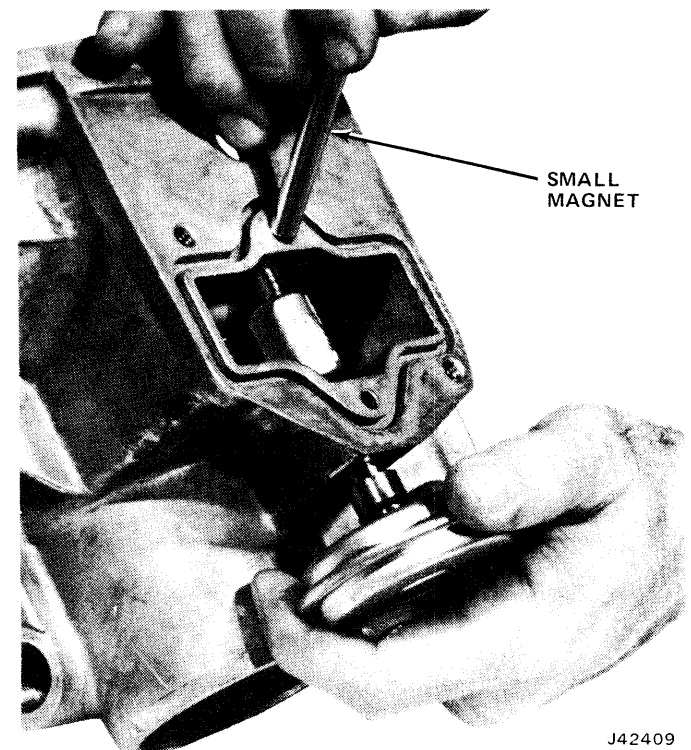

Fig. 8-55 Removing Diaphragm Control
(4) Insert magnet into opening before removing diaphragm control (fig. 8-55).
- (5) Remove diaphragm from case cover.
- (6) Remove detent ball and spring.
- (7) Remove shift fork and plastic shifting shoes.